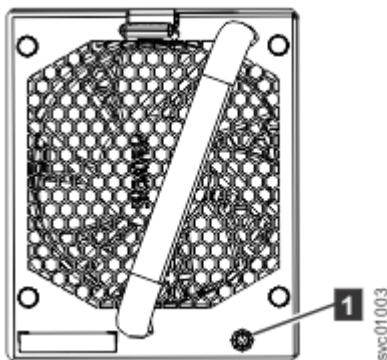

Figure 133. Fan module LED
1. Identify the fan module to be replaced. When lit, the amber LED on the front of the fan module (1 in Figure 133 on page 186) identifies a fault.